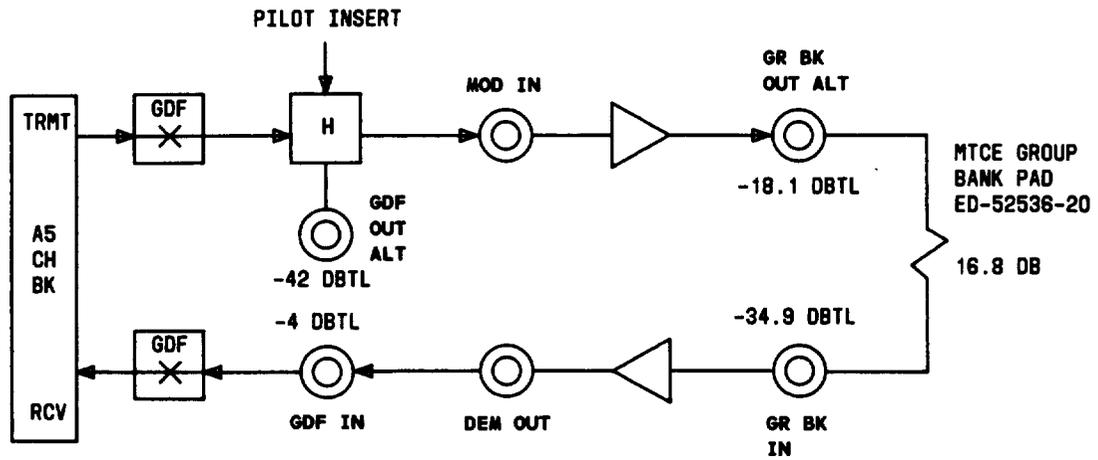

Fig. 6—Typical Channel Bank Equal-Level Looping Arrangements—LMX-3
4	At LMX-3 equipment, make looping connections as shown in Fig. 6.
- 4 At LMX-3 equipment, make looping connections as shown in Fig. 6.